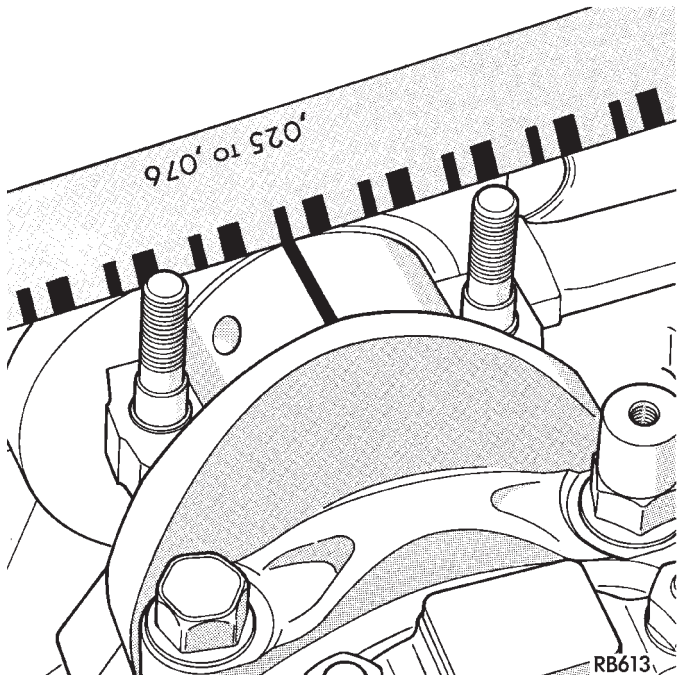

Fig. 12 Checking Connecting Rod Bearing Clearance—Typical
(1) Follow procedure specified in the Standard Service Procedure Section for Selecting and Measuring Main Bearing Clearance and Connecting Rod Bearing Clearance (Fig. 12). Refer to Connecting Rod Bearing Oil Clearance Chart for specifications.